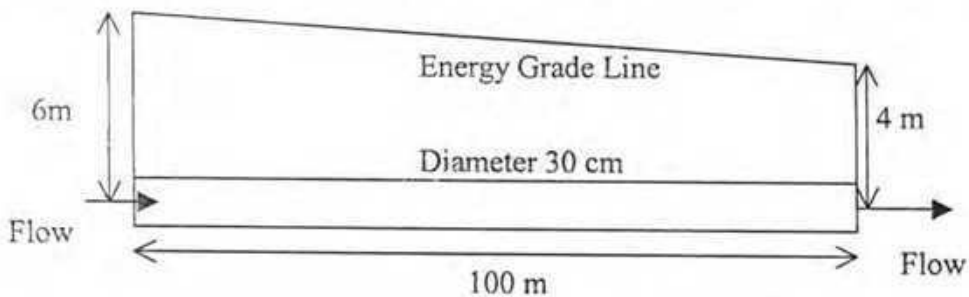

Figure 8
- c. Water is flowing through a pipe. The energy grade line is shown in Figure 8. Calculate flow of water through the pipe. Take $f=0.04$. 7